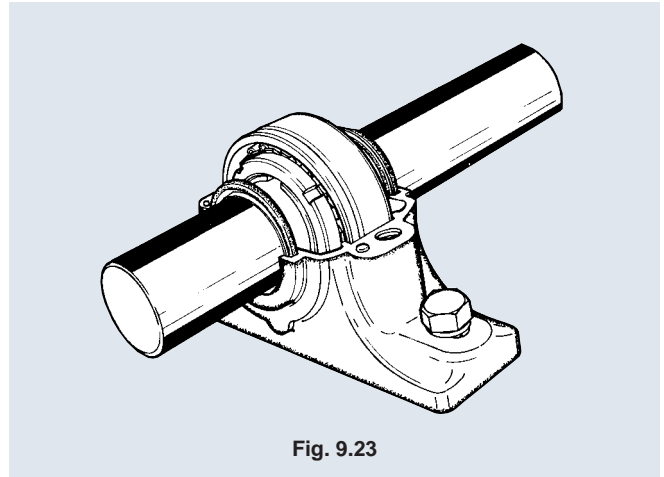

Fig. 9.23
- (2) Fit the locating bearing into the lower plummer block housing, together with the seal and stabilizing ring. (See **Fig. 9.23.**)